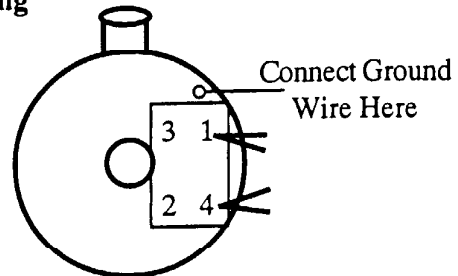

Figure 3
Step 1: Connect the neutral wire (white, typically) to Pole #4 (see Figure 3). The Figure is shown for *counterclockwise* rotation internal wiring, but is also valid for *clockwise* rotation when connecting external wires.